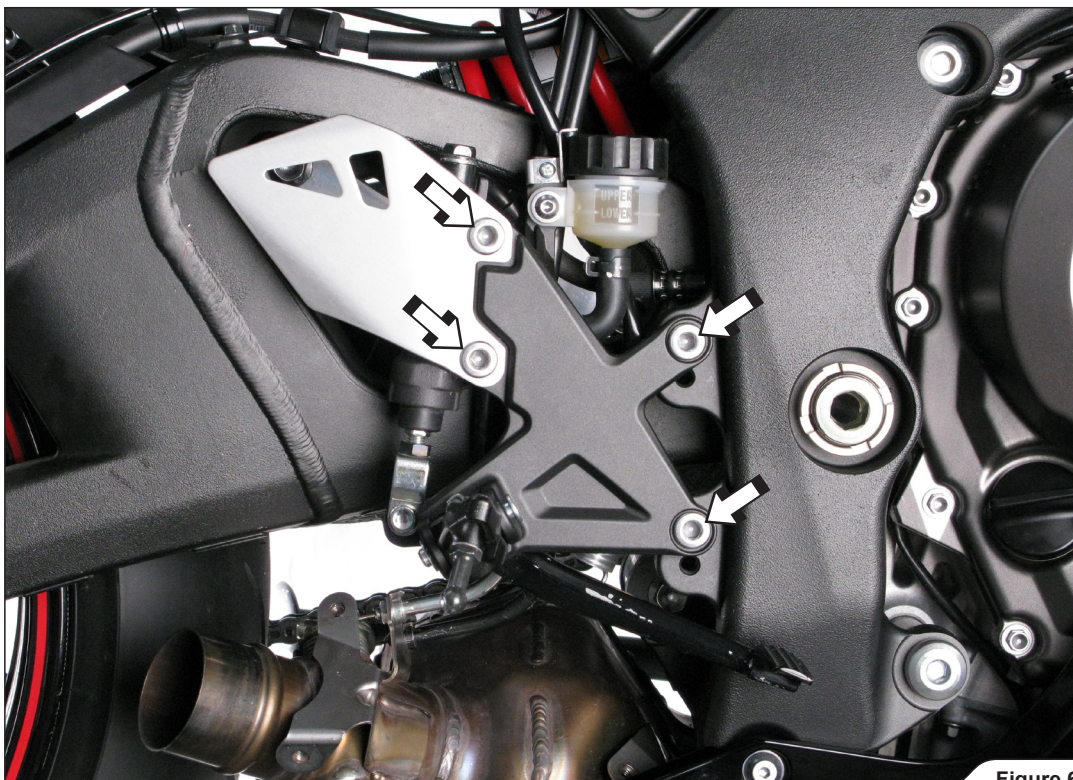

Figure 6
6. Unscrew the foot peg and foot guard, to release the exhaust valve cables (Figure 6).